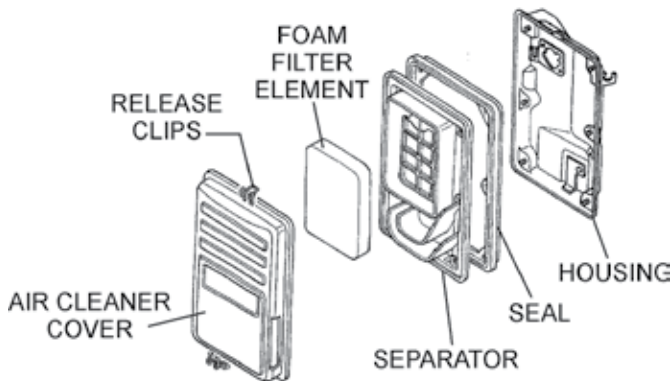

Figure 34. Engine Air Cleaner
1. Remove the air cleaner cover and foam filter element as shown in Figure 34.